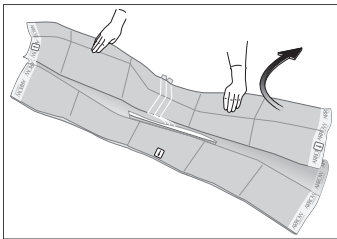

Figure 10
- Unfold towards head (refer to Figure 10).